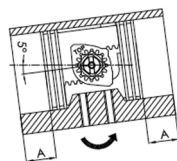

Fig. 15: Check dimension A
- ▶ Insert both pistons (item 40) into the housing (item 50) at the same time and press them in until the pistons are engaged, then turn the housing anticlockwise until the stroke is complete.
- ▶ When the pistons are fully retracted, ensure that the rotation achieved in relation to the axis of the housing is slightly more than 0° and that dimension A is the same on both sides (see Figure 15).